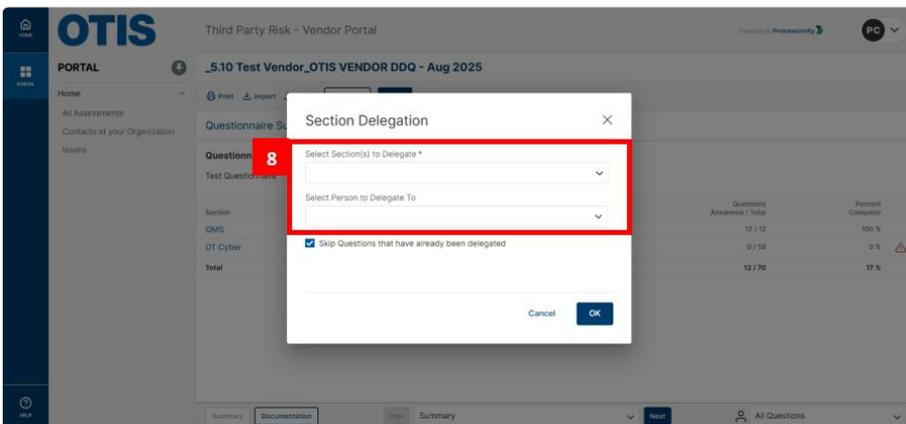

Figure 21
- Upon clicking the Delegation button, you will now be presented with options to select the section you want to delegate and the supplier contact you want to delegate the assessment to (Refer figure 21)